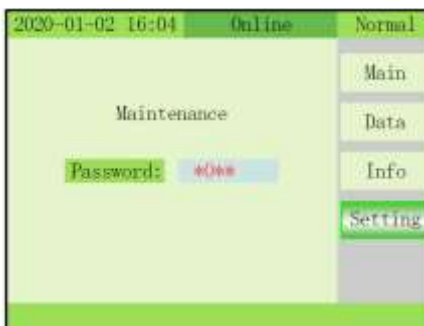

Fig. 4-11 Setting/Maintenance menu
- 9) MAINTENANCE: Press ↻ + OFF key to enter maintenance and display a password window. This setting is only accessible by authorized personal. Contact ZIGOR for training. (Fig. 4-11).